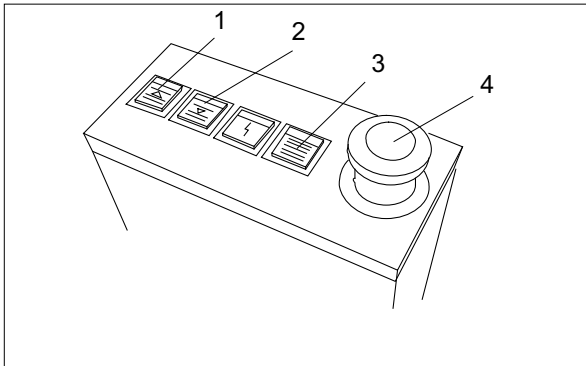

Fig. 13 Operator panel of the flat pile feeder
- Fig. 13/1 The pile table moves up automatically to the top position.
- Fig. 13/2 The pile table moves down, but only as long as the push-button is pressed.
- Fig. 13/3 **Auto mode**
- Fig. 13/4 **Emergency stop button**